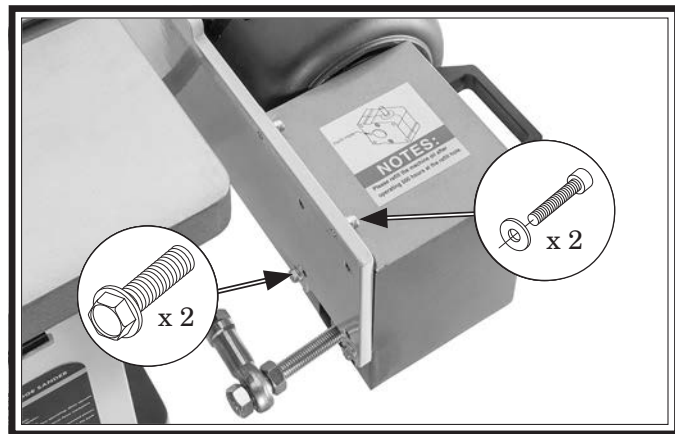

Figure 76. Location of gearbox cap screws and flange bolts.
3. Remove (2) cap screws and flat washers shown in **Figure 76**.
4. Remove (2) flange bolts shown in **Figure 76** to remove gearbox cover.